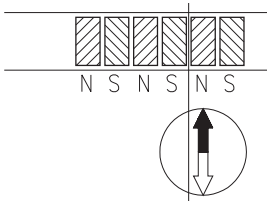

Fig. 18: Determination of the pole position. Cutting the magnetic strip
- If necessary, use a compass needle to determine the location of the poles on the magnetic strip (fig. 18).